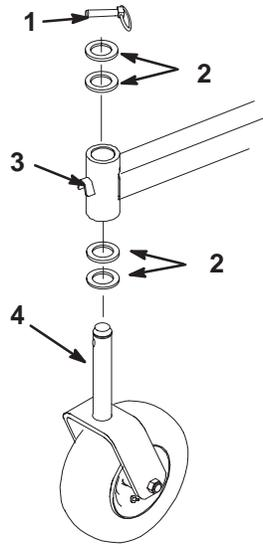

Figure 66
2. Remove the locking pin and spacer(s) from the top of the caster wheel fork (Fig. 66).
6. Inspect the caster wheel fork for wear and replace if necessary (Fig. 66).
7. Slide the caster wheel fork through the bushings in the mounting tube. Replace the spacers(s) onto the fork and secure with the retaining ring (Fig. 66).